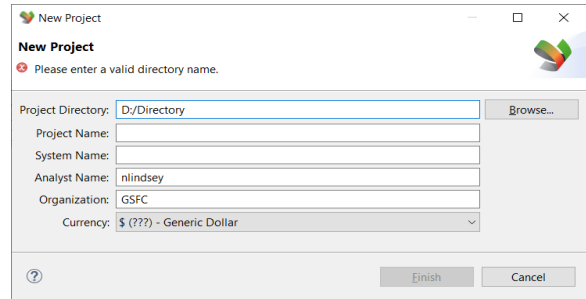

Figure B2: MADE New Project Window
- 1) Use the MADE file menu to open a *New Project* (Figure B2).